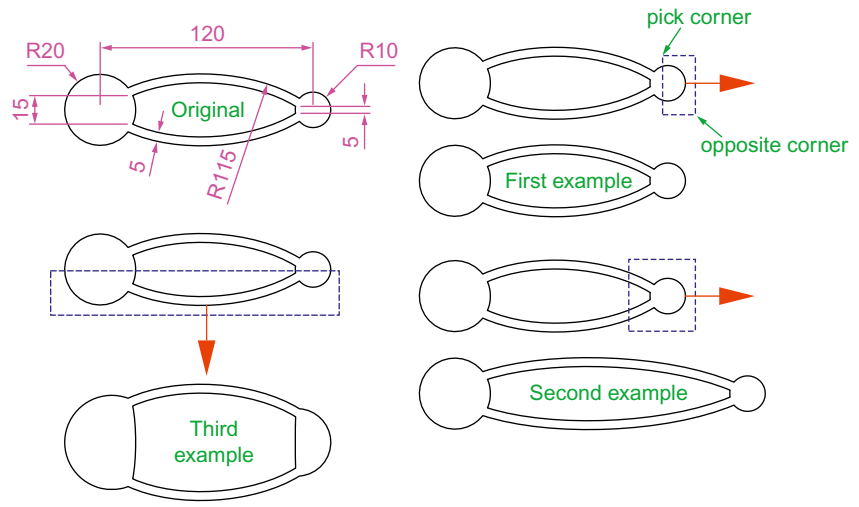

Fig. 5.34 Examples – Stretch
Examples – Stretch (Fig. 5.34)
1. Construct the drawing labelled **Original** in Fig. 5.34, but do not include the dimensions. Use the **Circle**, **Arc**, **Trim** and **Polyline Edit** tools. The resulting outlines are plines of width = 1. With the **Copy** tool make two copies of the drawing.
In each of the three examples in Fig. 5.34, the broken lines represent the crossing windows required when **Stretch** is used.
2. Care must be taken when using this tool as unwanted stretching can occur (Fig. 5.34).